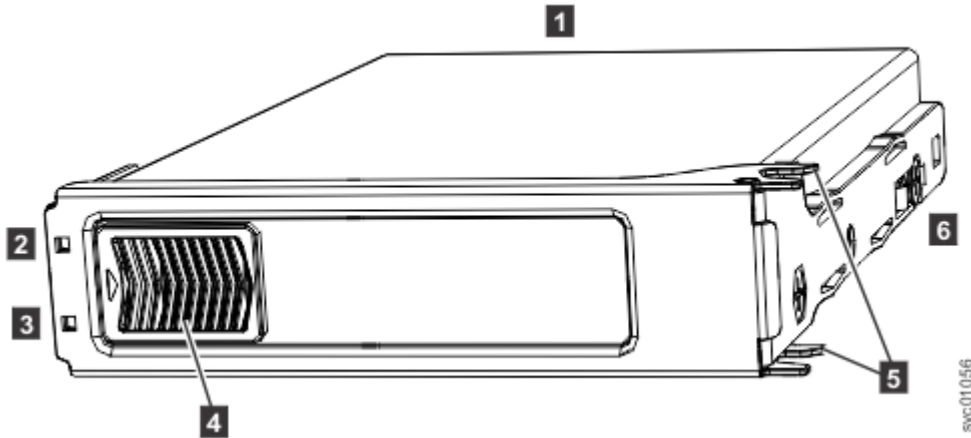

Figure 67. LEDs on a drive assembly
Figure 67 on page 65 shows the components of a drive assembly. Each drive has an online indicator (2) and fault indicator (3).